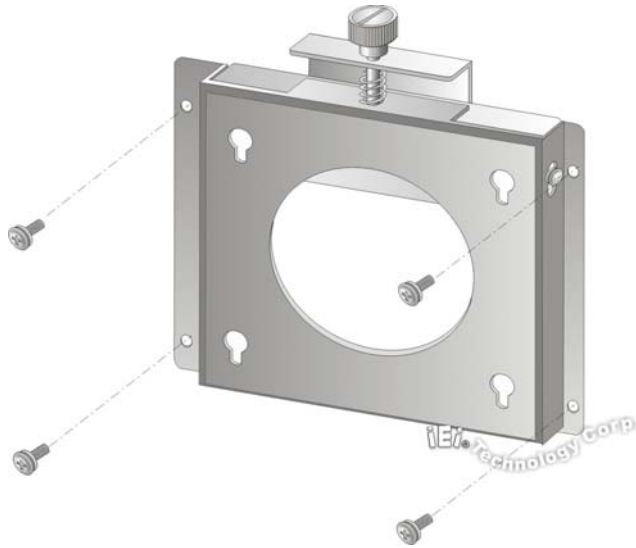

Figure 3-25: Wall-mounting Bracket
Step 5: Secure the mounting-bracket to the wall by inserting the retention screws into the four pilot holes and tightening them (Figure 3-25).